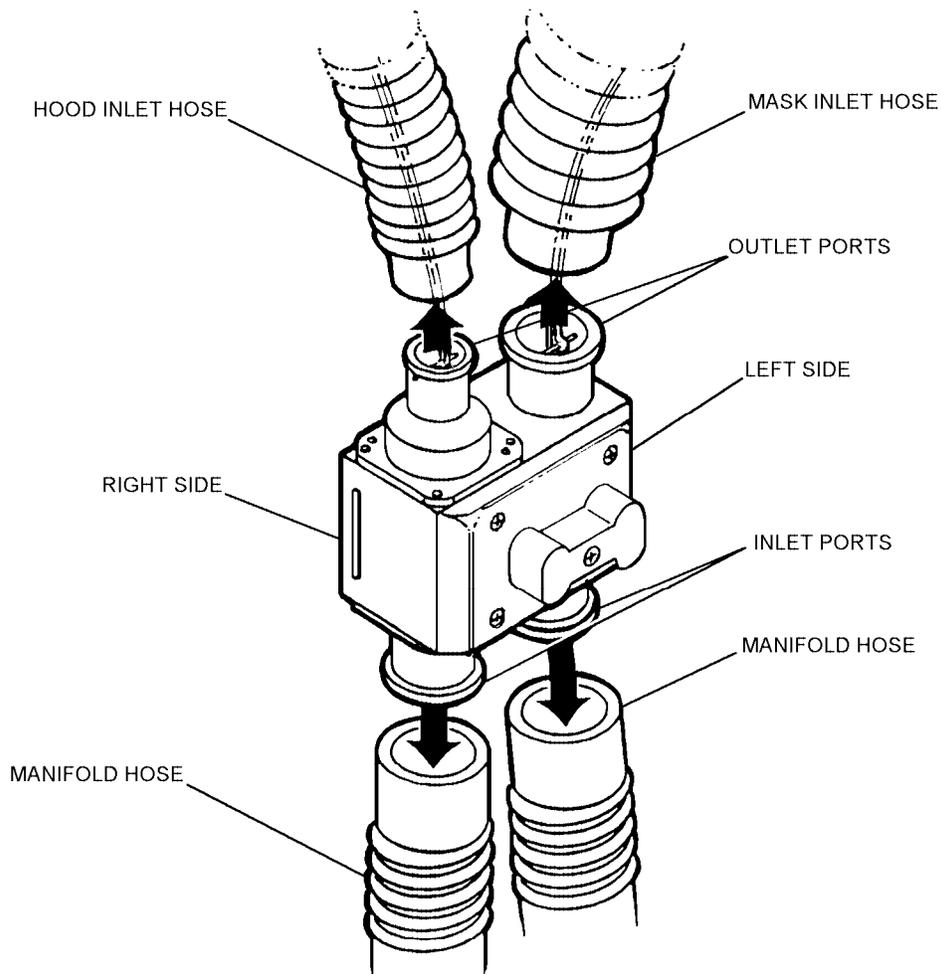

Figure 4-103. H-Manifold Hose Removal
**4-178. H-Manifold (figure 4-103).**